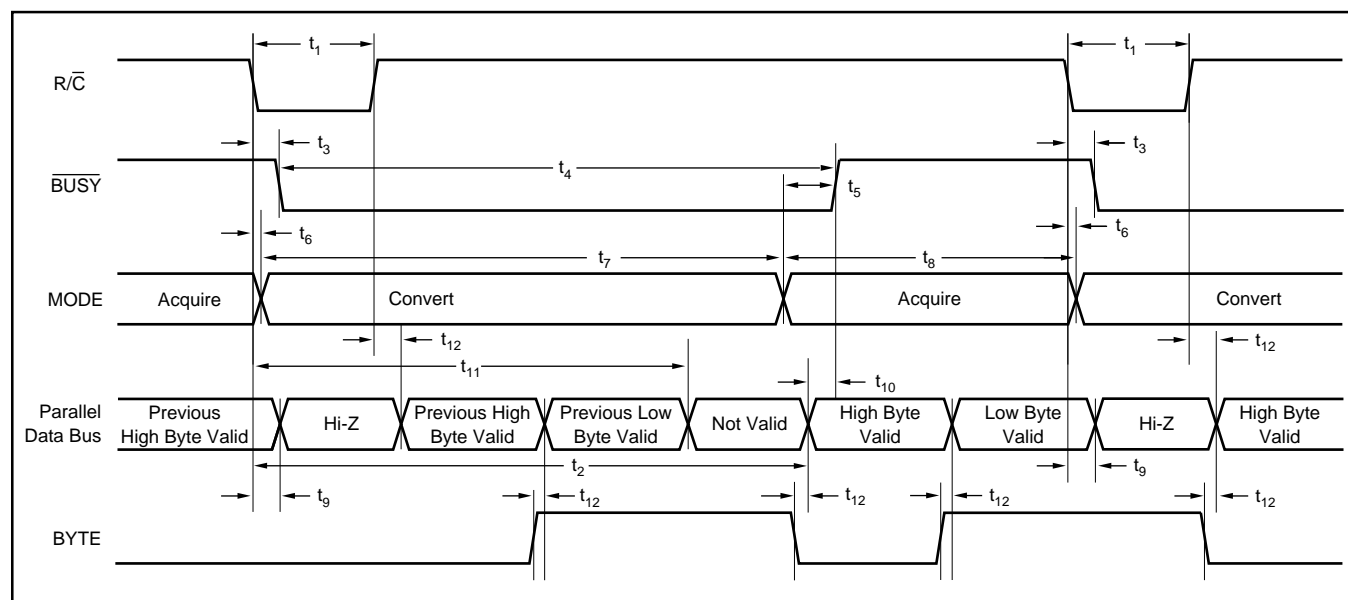

FIGURE 2. Conversion Timing with Parallel Output ( $\overline{\text{CS}}$  and  $\text{DATACLK}$  tied LOW,  $\overline{\text{EXT/INT}}$  tied HIGH).
The ADS7807 will begin tracking the input signal at the end of the conversion. Allowing 25µs between convert commands assures accurate acquisition of a new signal. Refer to Tables II and III for a summary of  $\overline{CS}$ ,  $R/\overline{C}$ , and  $BUSY$  states, and Figures 2 through 6 for timing diagrams.
NOTE: (1) See Figures 2 and 3 for constraints on data valid from conversion 'n - 1'.
After conversion 'n' is completed and the output registers have been updated,  $\overline{\text{BUSY}}$  (pin 24) will go HIGH. Valid data from conversion 'n' will be available on D7-D0 (pins 9-13 and 15-17).  $\overline{\text{BUSY}}$  going high can be used to latch the data. Refer to Table V and Figures 2 and 3 for timing constraints.
After conversion 'n' has been initiated, valid data from conversion 'n - 1' can be read and will be valid up to  $12\mu\text{s}$  after the start of conversion 'n'. Do not attempt to read data beyond  $12\mu\text{s}$  after the start of conversion 'n' until  $\overline{\text{BUSY}}$  (pin 24) goes HIGH; this may result in reading invalid data. Refer to Table V and Figures 2 and 3 for timing constraints.